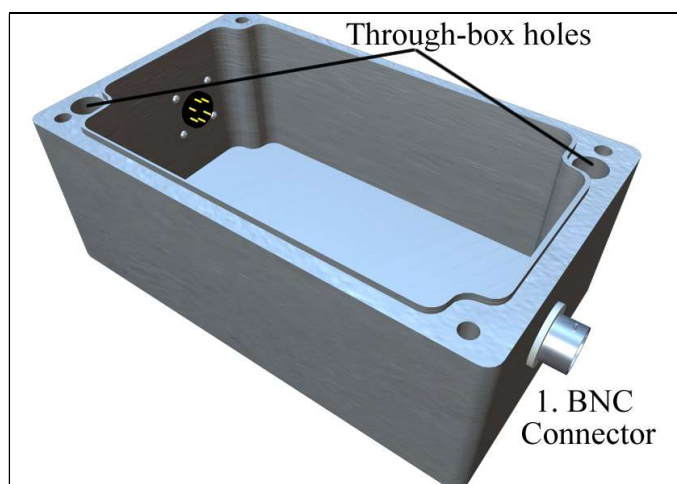

Figure 2-1 Enclosure and BNC Connector
1. A BNC connector (Figure 2-1) is used to attach the wave probe head coax cable to the AWP-24-3 electronics.